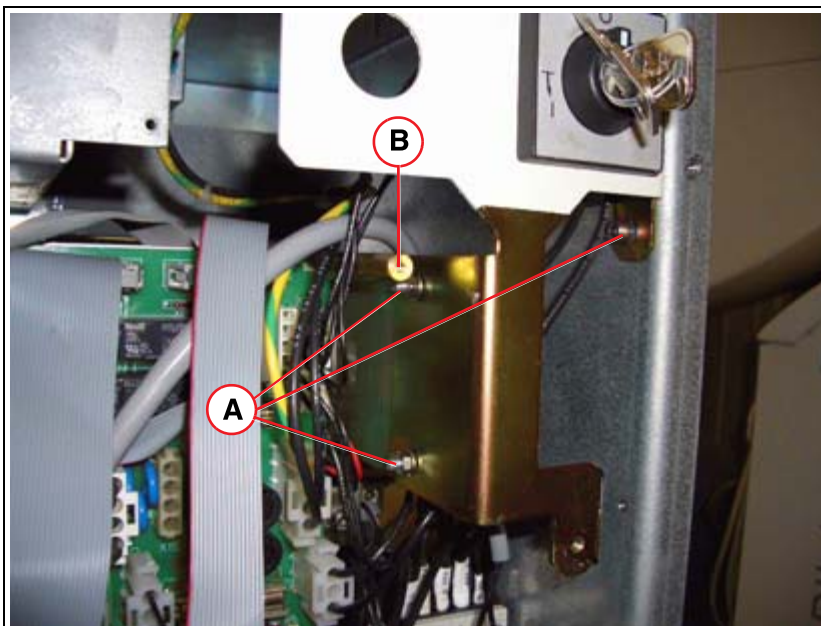

Fig. 69: Holding plate
- For MOBILETT XP Digital, unscrew the holding plate with the key switch (3 screws, see \(A/Fig. 69 / p. 76\)). If necessary, remove the stay bolt (see \(B/Fig. 69 / p. 76\)).